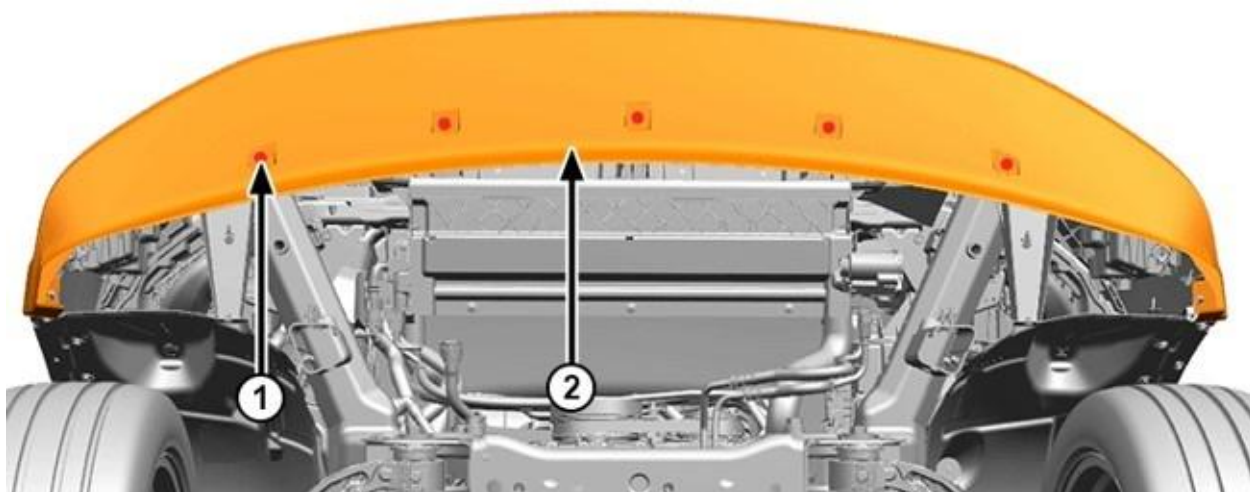

Figure B7 – Air Dam
12. Remove the fascia air dam to lower bracket bolts (Figure B7).